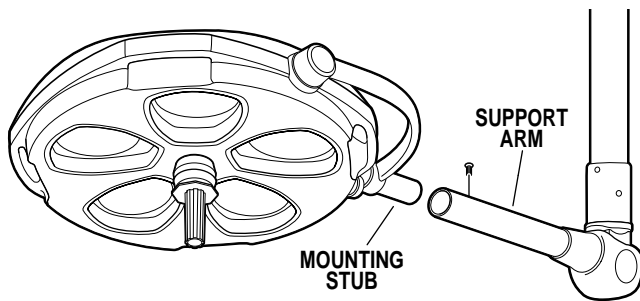

**Figure 8. Above Horizontal Limit Stops**
d. Pull the lighthead down and remove the Above Horizontal Limit Stops from the BOM. See figure 8.
- Pull the lighthead down and remove the Above Horizontal Limit Stops from the BOM. See figure 8.